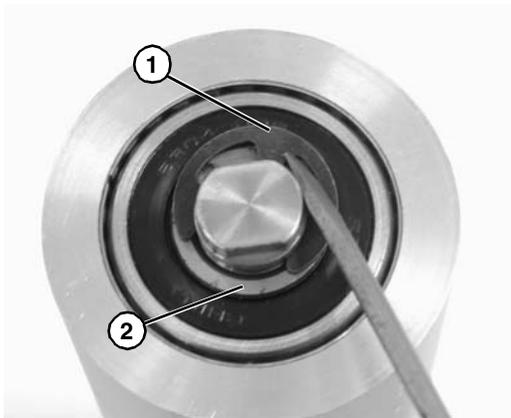

Figure 57
- Remove the pulley shaft assembly: remove the clip ring (**Figure 57, item 1**) and washer (**Figure 57, item 2**) from one side of the pulley assembly.